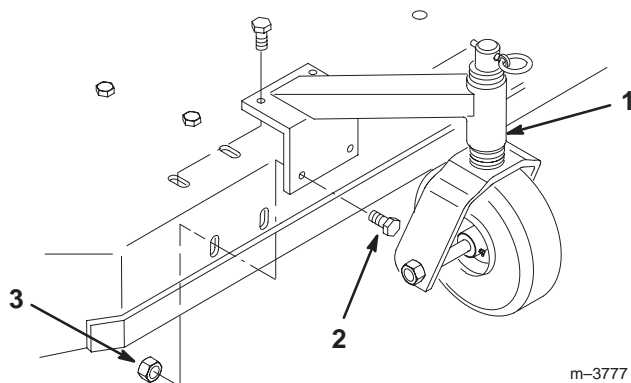

Figure 2
1. Align the casters with the holes on the top and front of the mower, and insert 8 bolts (3/8 x 3/4 inch) through the mower. Secure the casters with 8 flange nuts (3/8 inch) below the mower (Fig. 2).